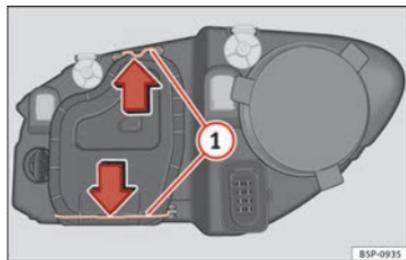

Fig. 184 Dipped beam headlights
- Move the loops ⇒ Fig. 184 ① in the direction of the arrow and remove the cover.